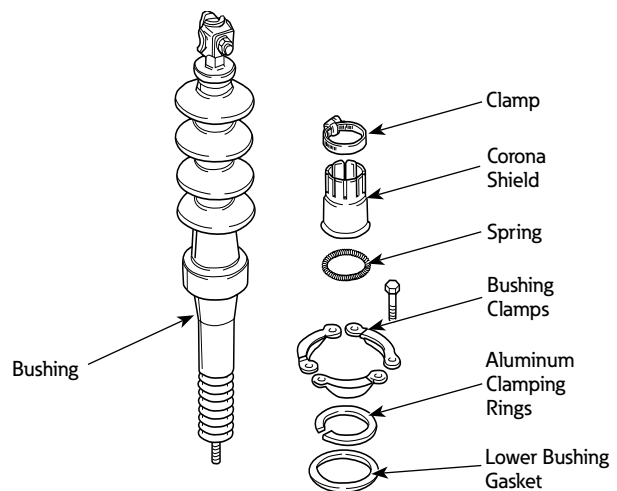

Figure 15. Bushing replacement (DV).
3. Type DV only (refer to Figure 15).